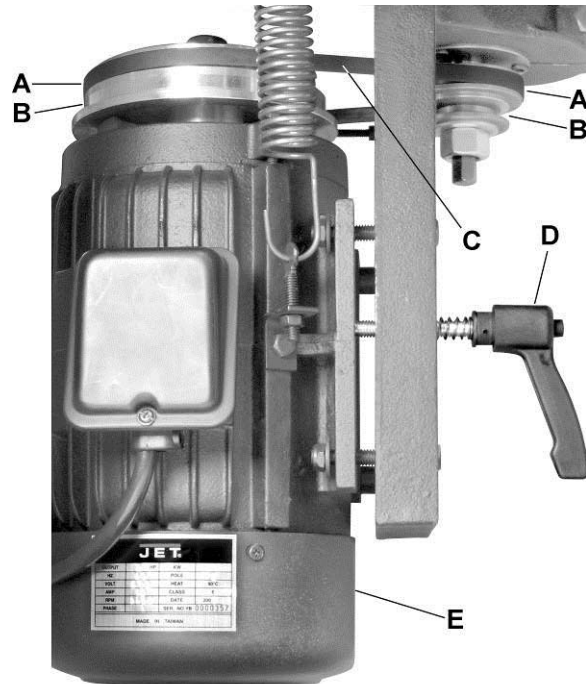

Figure 4
Referring to Figure 4:
3. Remove the belt tension by turning the *tension handle* (D) fully counterclockwise. This allows the *motor* (E) to swivel on its mounting hinge.
4. Move the *drive belt* (C) as desired to the A or B position (Figure 4 shows belt in A position).
5. Turn the *tension handle* (D) clockwise to re-secure the *motor* (E) and place tension on the drive belt.